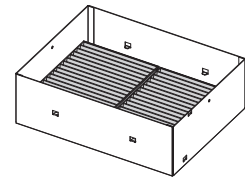

Fig. 3
- When the two air filter units are attached (Fig. 3), proceed to “Attaching the long life filter cover” (➔ page 230) next.